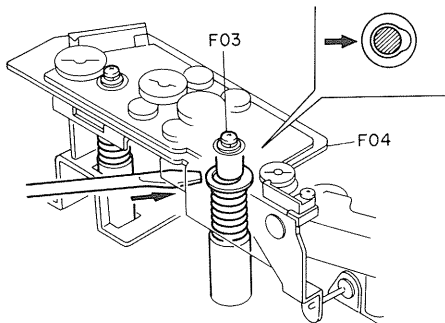

Fig. 2.9.3
- (b) Install F04 (Head Mount Base Ass'y) and fasten F03 (2 pcs.). Push the Plate Washers with a blade of the screwdriver so that the Plate Washers come off the grooves. See Fig. 2.9.3.
- (1) 400 Hz Level Tape (DA09005B)
- (2) 1 kHz Track Alignment B Tape (DA09007B)
- (3) 10 kHz PB Frequency Response Tape (DA09003B)
- (4) 15 kHz PB Frequency Response Tape (DA09002B)
- (5) 20 kHz PB Frequency Response Tape (DA09001B)
- (6) 15 kHz Azimuth Tape (DA09004B)
- (7) 3 kHz Speed and Wow/Flutter Tape (DA09006C)
- (8) Tape Travelling Cassette (DA09071A)
- (9) Reference EXII Tape (DA09111A)
- (10) Reference SX Tape (DA09110A)